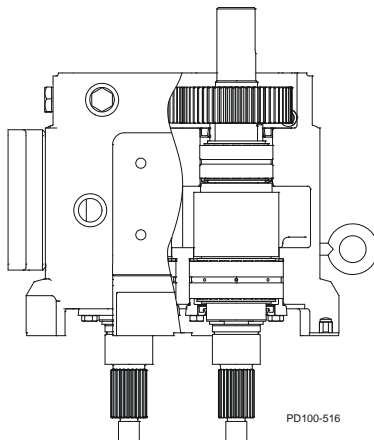

Figure 41 - Press Shafts from Gear Case
- Place the gear case on an arbor press with the liquid end facing down. Protect the shaft ends with a wood or plastic block, and press the shafts out of the gear case (Figure 41).